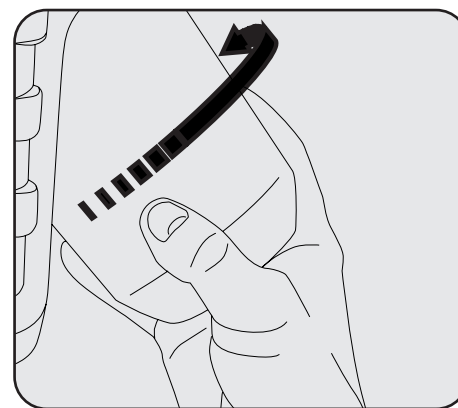

Figure 2
2. Swivel regulator at the rear of the heater outward for easy tank installation. Screw 1 lb. disposable LP-gas supply cylinder clockwise (from bottom) into portable heater until hand-tight. See Figure 2. Do not use thread sealant on this connection.